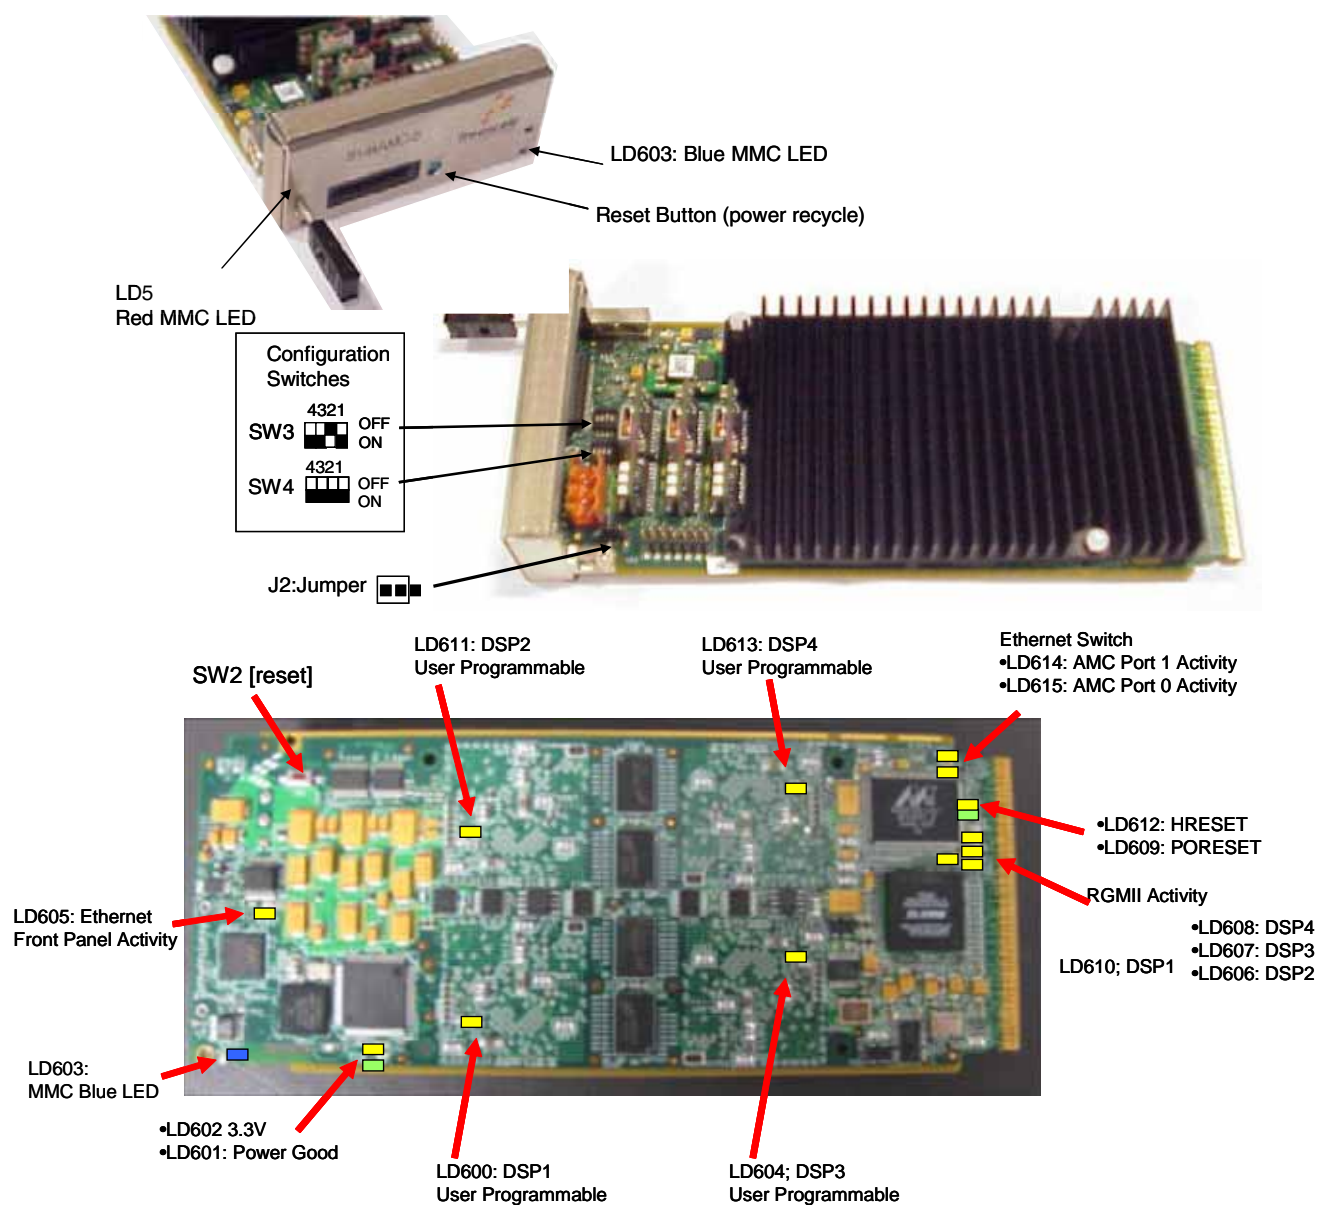

Figure 4-1. MSC8144AMC-S Switches, Jumpers, LEDs, and Push Buttons Locations
5. Check for completion of the reset sequence indicated by the LEDs; see Figure 4-1 for locations. A full description of the LEDs is given in Table 4-3.
This chapter describes the controls and indicators for the MSC8144AMC-S processor board, which includes switches, jumpers, LEDs, and push button switches shown in Figure 4-1.
Figure 4-1 shows the location on the board of the DIP switches in their default position. Figure 4-2 describes the possible settings of the switches. Note that when ON, the value of the switch is zero. For a detailed description of the bits and fields see the *MSC8144 Reference Manual*. Check the default positions and make sure that the board is operational before changing any settings.
Table 4-3 describes the LED functions and Figure 4-1 shows the LED location on the MSC8144AMC-S Processor Board.